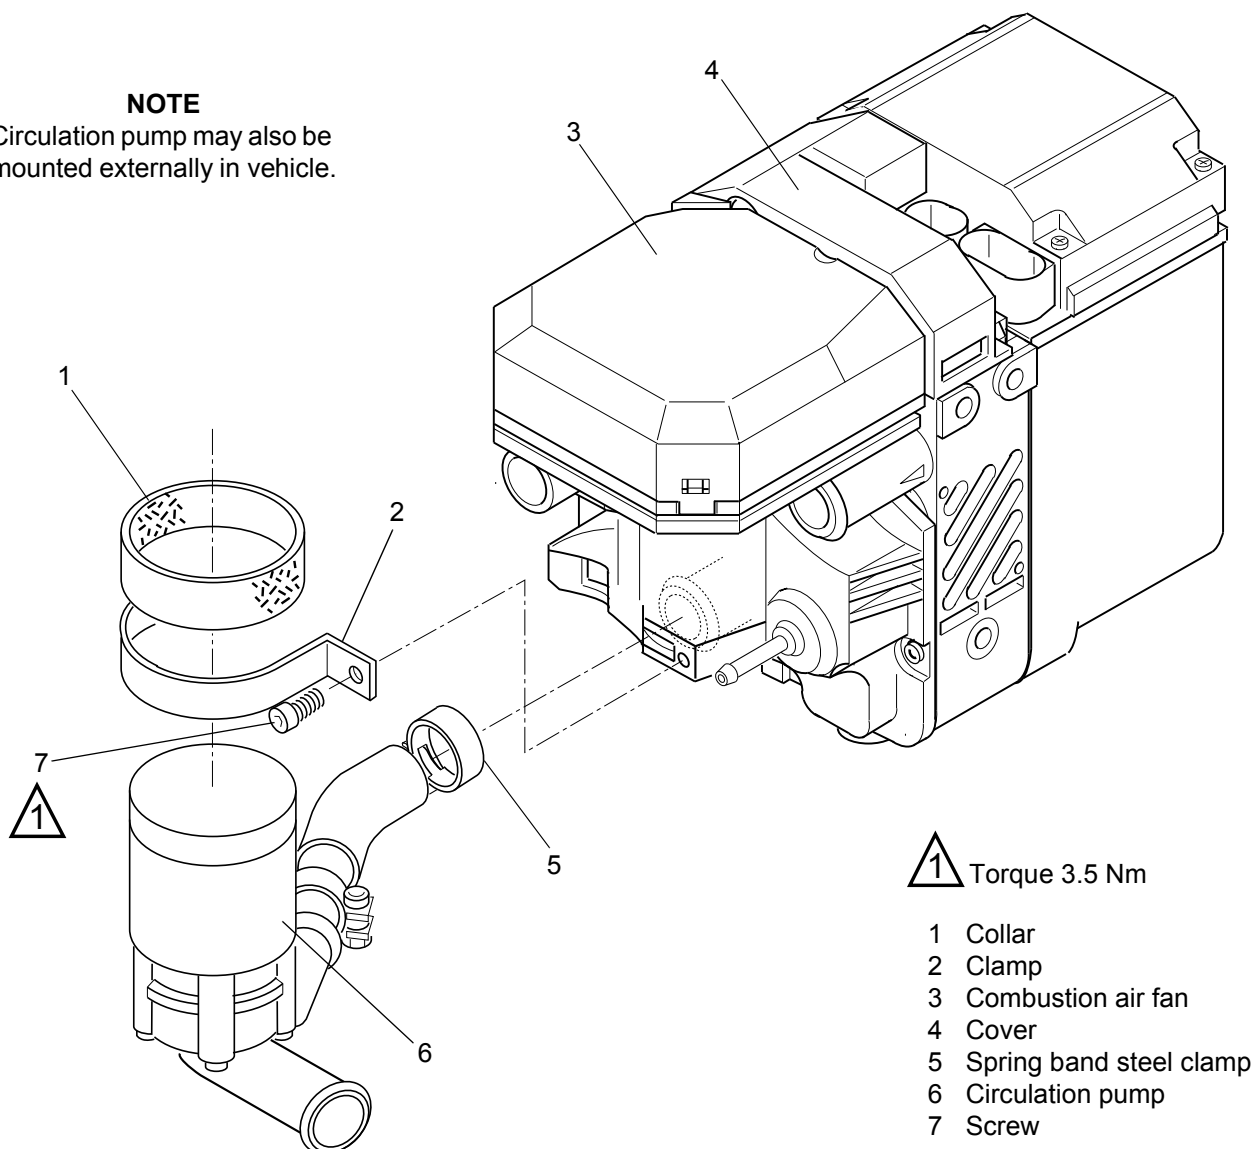

Fig. 901 Replacement of Circulation Pump (Thermo Top C)
1. Remove cover (4, Fig. 901) and disconnect electrical connector of circulation pump.
2. Loosen spring band steel clamp (5, Fig. 901).
3. Remove screw (7) and clamp (2).
4. Withdraw circulation pump (6) and remove spring band steel clamp (5).
5. Withdraw collar (1) as required.
1. Slide spring band steel clamp (5, Fig. 901) onto hose end.
2. Position collar (1) on circulation pump (6) as required.
3. Locate circulation pump (6) for installation and secure with clamp (2) and screw (7) on combustion air fan (3).
4. Position spring band steel clamp (5).
5. Torque screw (7) with  $3.5 \pm 0.3$  Nm.
6. Connect circulation pump electrical connection and fit cover (4).